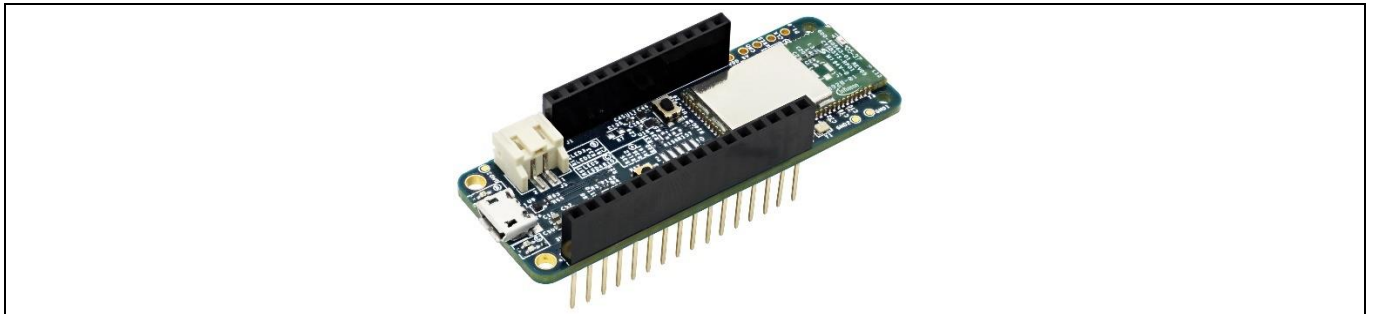

Figure 2 CYSBSYSKIT-DEV-01 rapid IoT connect developer kit
- Rapid IoT connect developer kit (CYSBSYSKIT-DEV-01) (Figure 2)